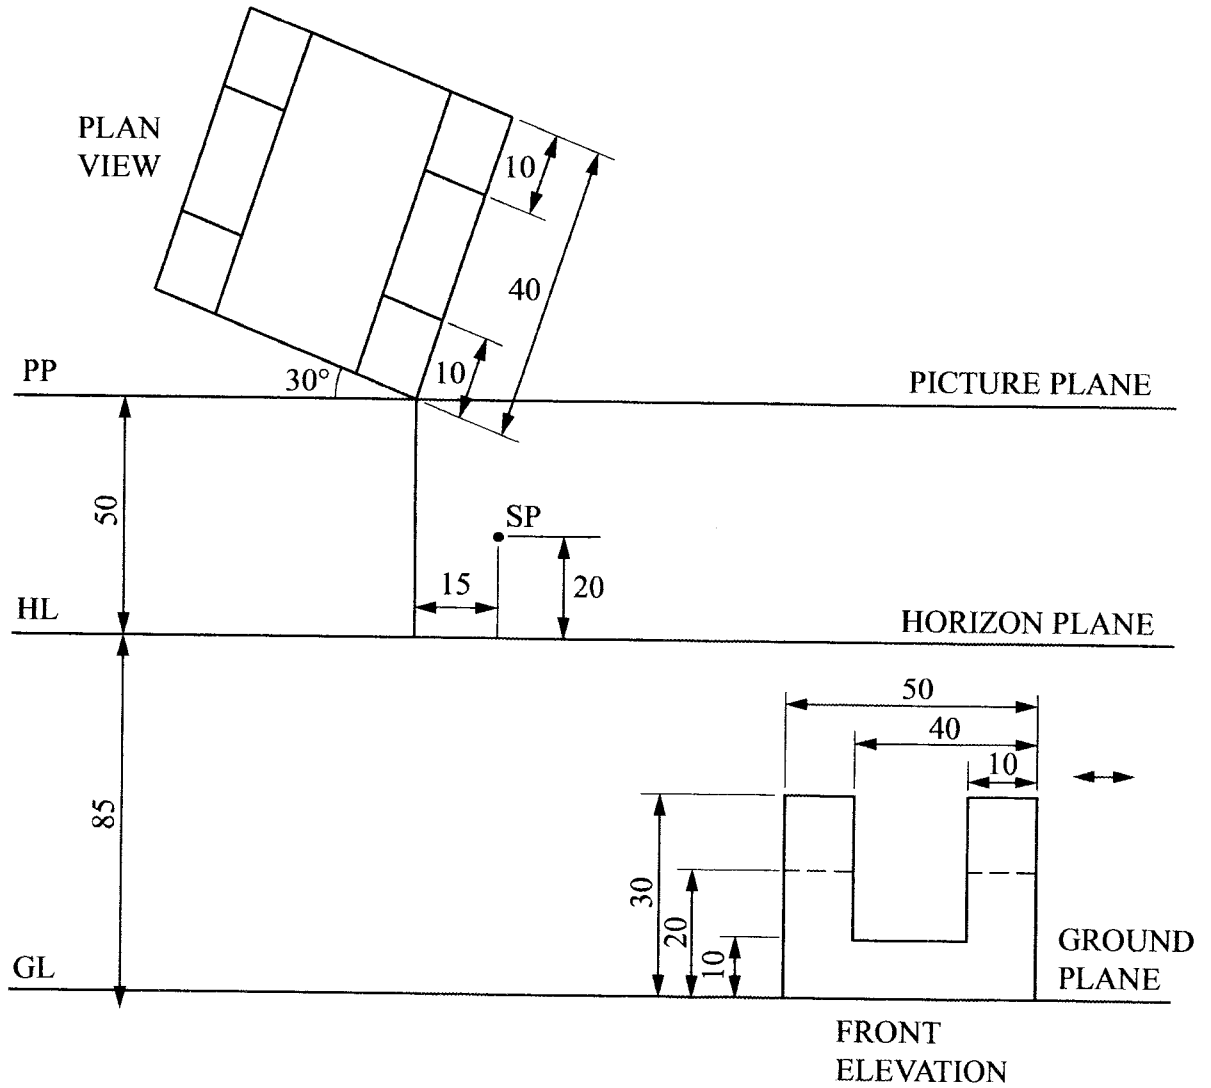

Figure 10
14. **Figure 10** shows an inclined plan of a block and its front elevation.